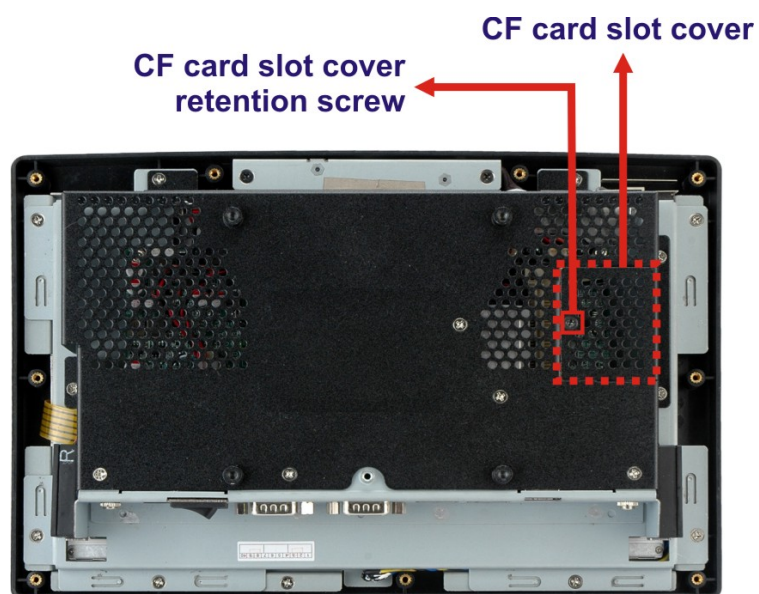

Figure 2-2: CF card slot location
Step 2: Locate the CF slot cover. Remove the retention screw and cover (**Figure 2-2**).